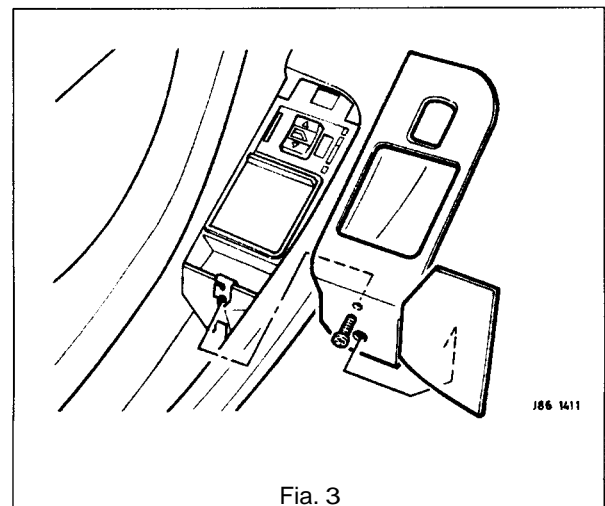

Fig. 3
- Displace and remove the rear window lift switch assembly end cover trim pad (Fig. 3).
- Undo and remove the veneer panel to switch assembly securing screw (Fig. 3).
- Displace and remove the veneer panel from the forward securing clip (Fig. 3).
- Undo and remove the switch assembly securing screws / nuts (Fig. 3).